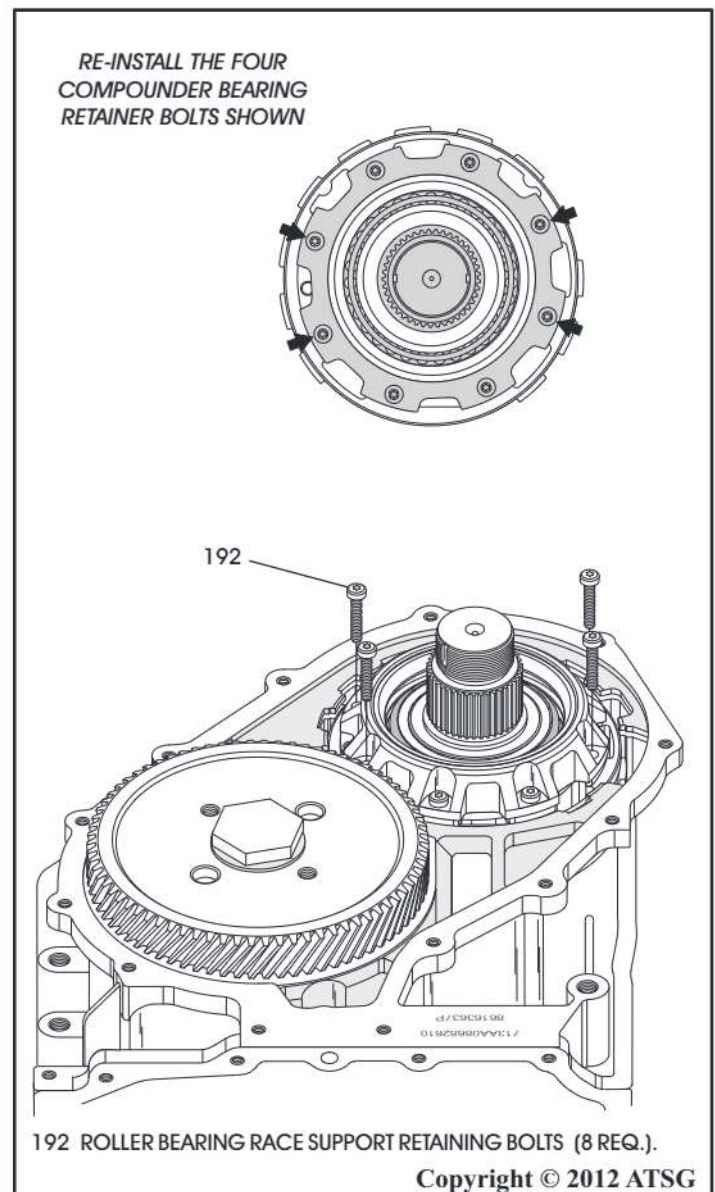

Figure 233
10. Remove the special tool and re-install the four compounder bearing retainer bolts, as shown in Figure 233, and torque to 12 N·m (105 in.lb.).